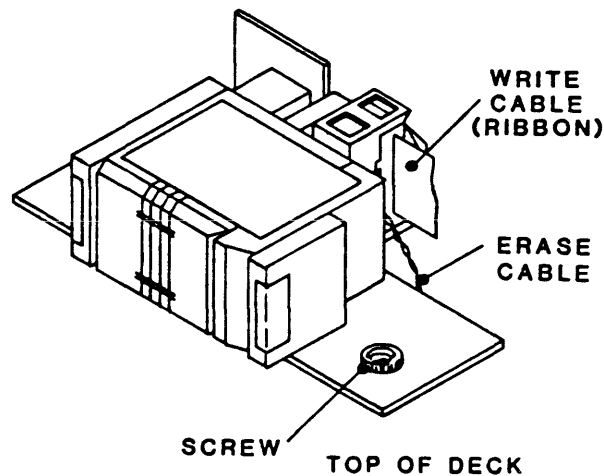

**Figure 4-24 Supply Reel Motor Assembly**
**4.3.29 REEL MOTOR ASSEMBLY (Figure 4-24)**